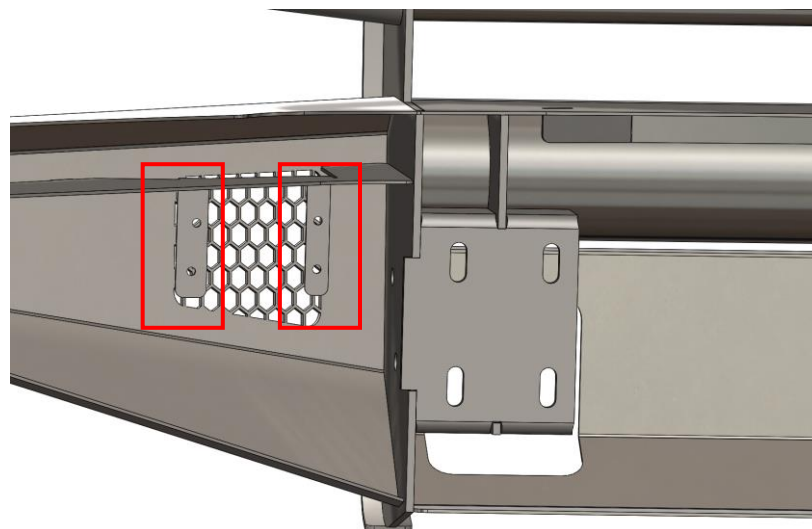

Figure 11
4. Remove OEM fog light from the bumper, slide into place behind grating on Fab Fours bumpers and screw in place (Ref. Figure 11).